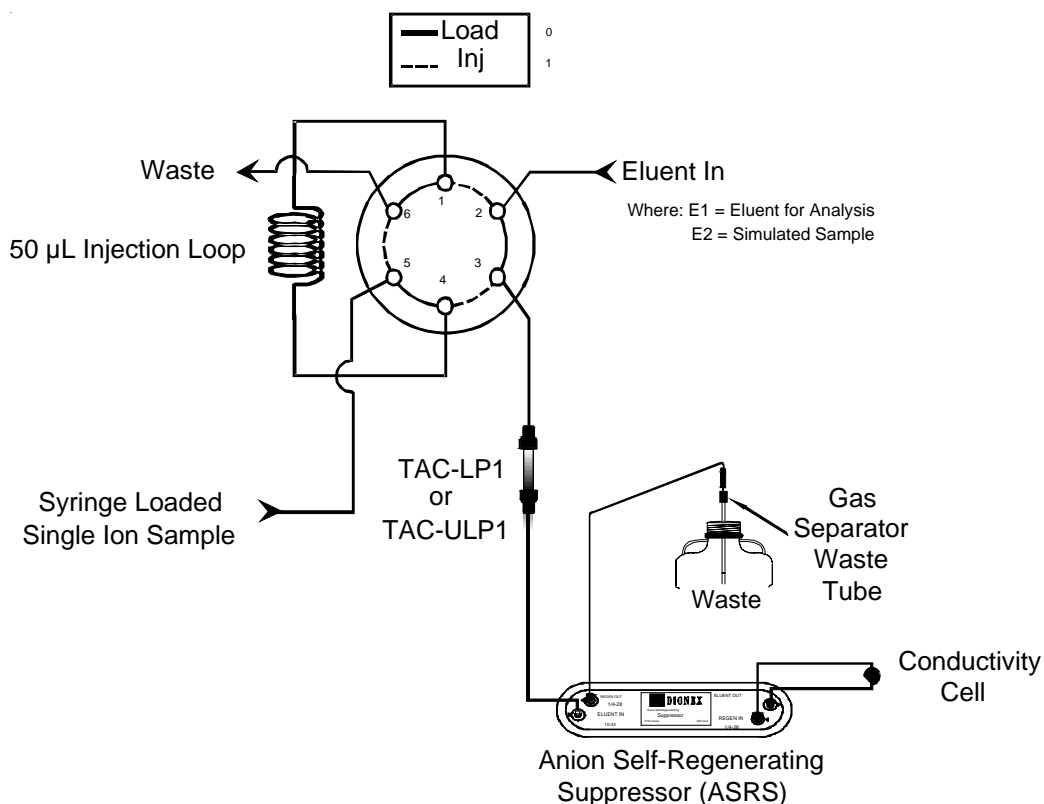

Figure 5
- Set up the Ion Chromatograph, as shown in Figure 5, "Instrument Setup for the Determination of the Breakthrough Volume."